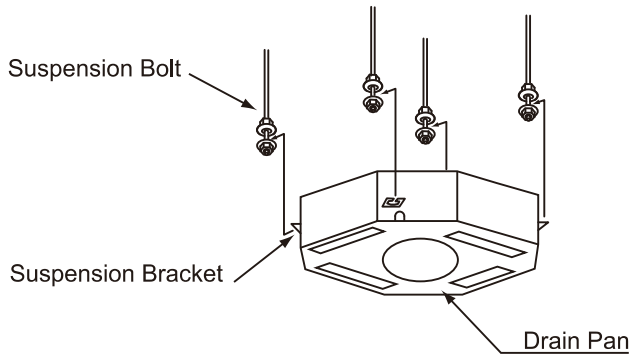

Fig. 3.7 Mounting the Indoor Unit
- (2) Lift the indoor unit by hoist, and do not apply any force on the drain pan.
- (3) Secure the indoor unit using the nuts and washer, as shown in Fig. 3.7.